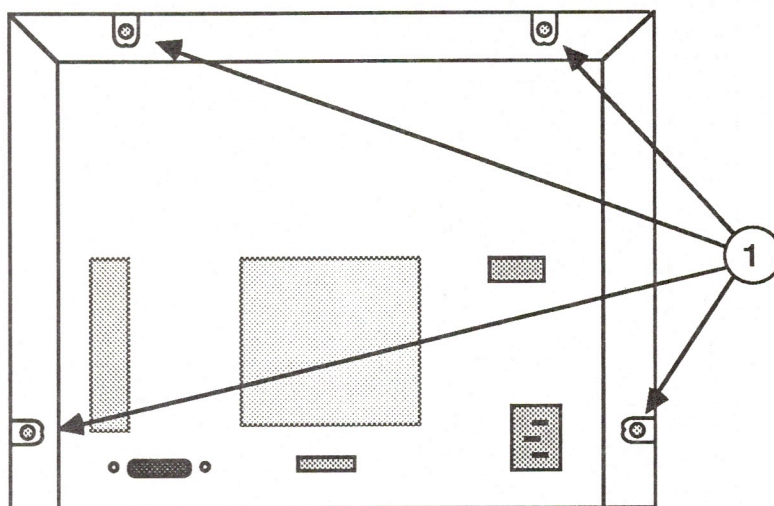

FIGURE 1
3. Remove the four screws (Figure 1, #1) from the rear cover.
2. Replace the four Phillips screws (Figure 1, #1).